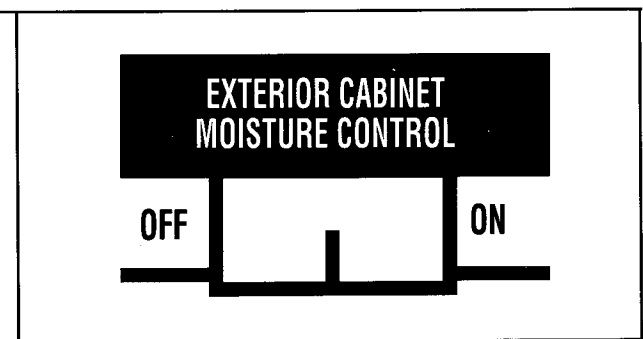

Figure 54
1. Set this control in the "on," position for high humidity. See Figure 54.